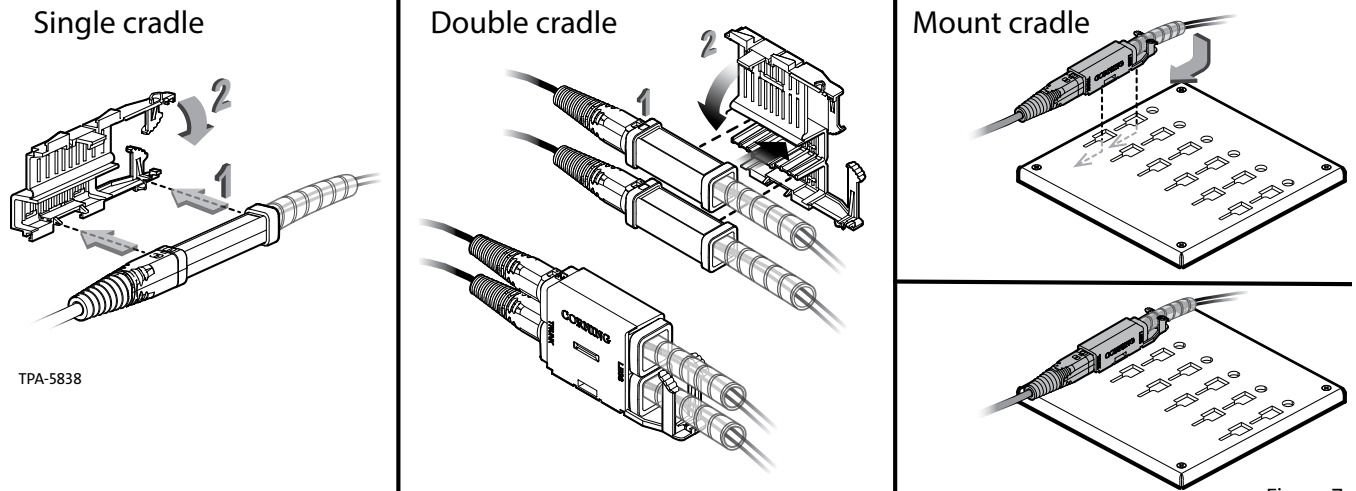

Figure 7
Step 3: Insert furcation plug into cradle as seen in Figure 7 and mount cradle onto CDF bracket.